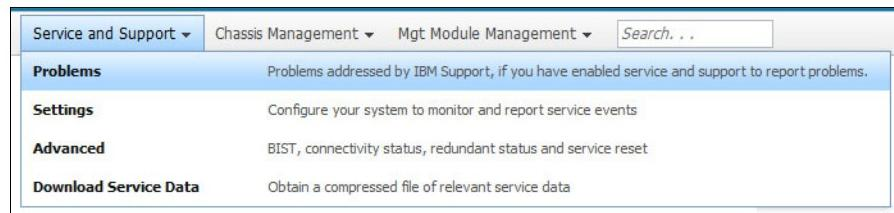

Figure 7-9 CMM Service and Support drop-down menu
- ▶ Service and Support, shown in Figure 7-9.